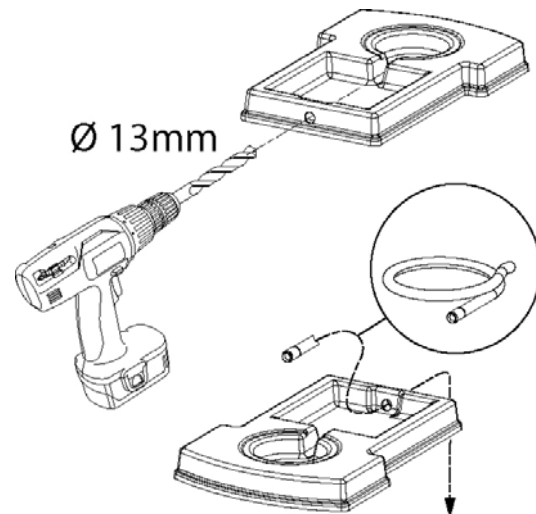

Fig. 16
The overflow hose of the machine empties into the drip tray. It is possible to fit a drain hose to the drip tray. Drill a drain hole in the back and fit the drain hose in accordance with fig. 16.
Slide the appropriate recipe plate into the window next to the appropriate button (fig. 16).
7. It is possible to connect a drain to the drip tray (chapter 3.5, fig.16). There is a nozzle on the back side of the drip tray. Drill through it and connect the drain.